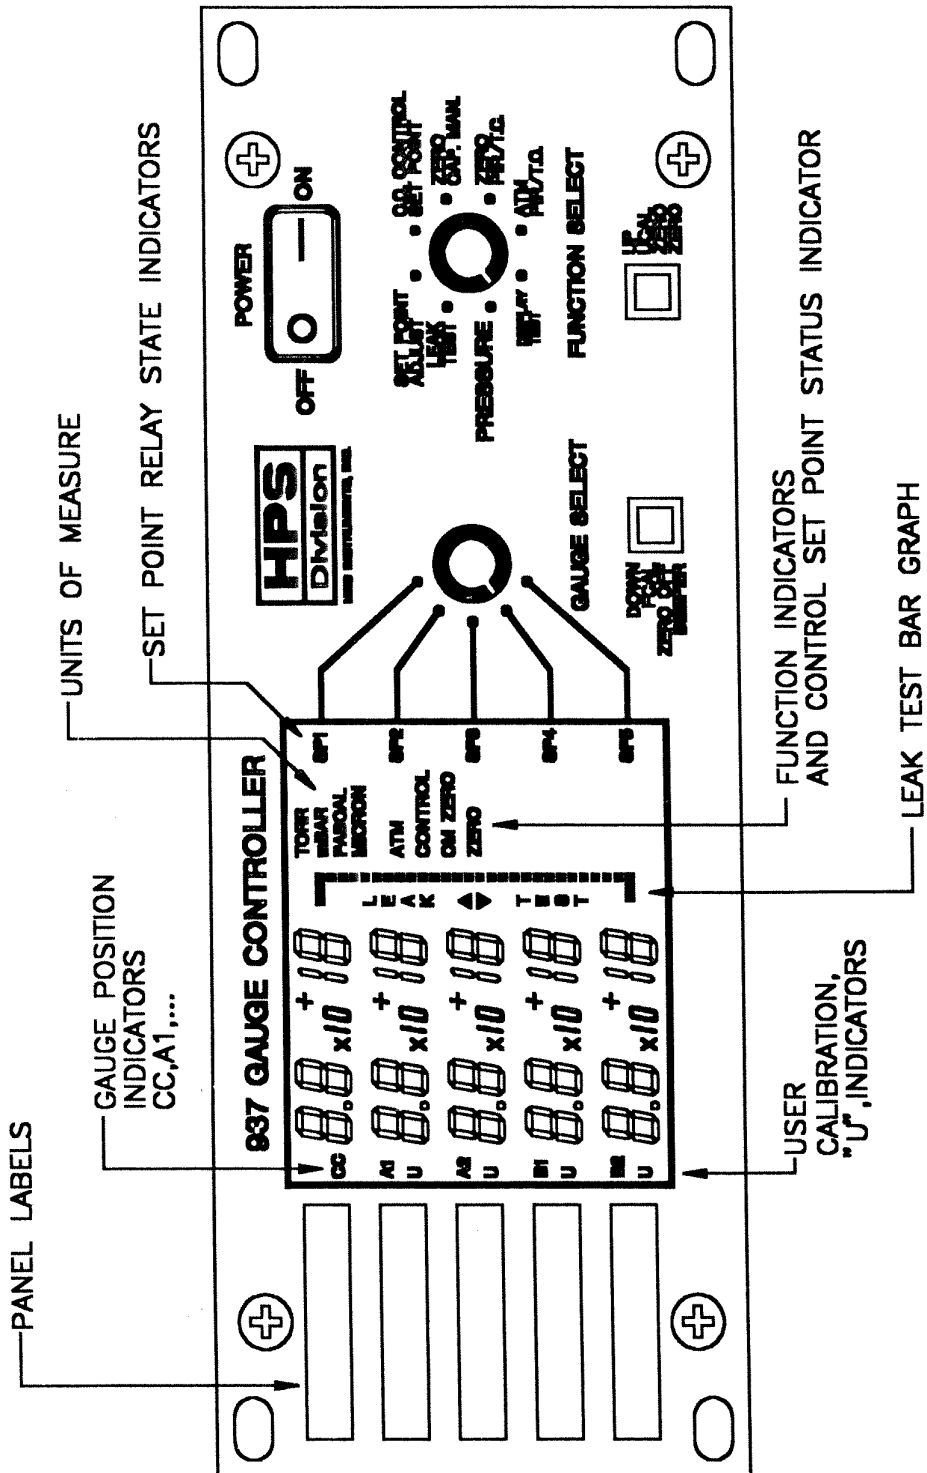

FIGURE 1 - FRONT PANEL
5. FRONT PANEL DESCRIPTION (See Figure 1)